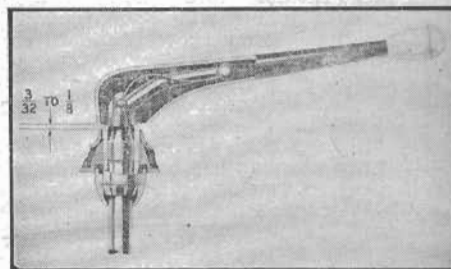

Fig. 13 Steering column upper support-to-control lever clearance. 1952-53 Powerglide
1. Check clearance between control lever and upper support cover, which should be as shown in Fig. 13.